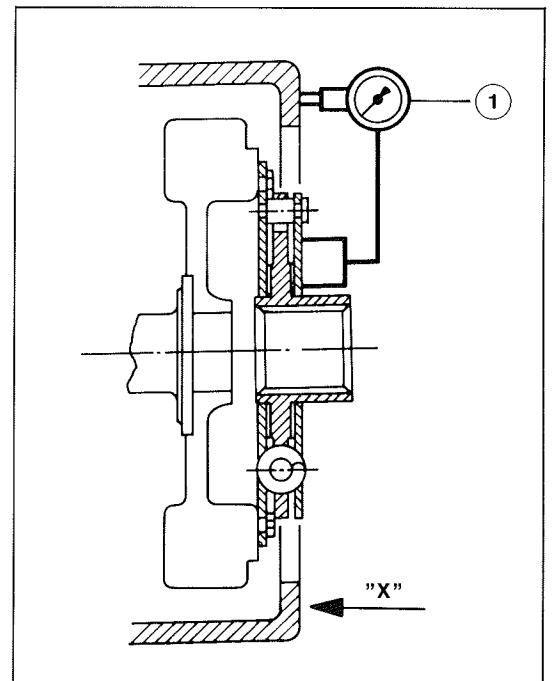

Figure 3
- Attach caliper linkage (Figure 3, item 1) to damperplate